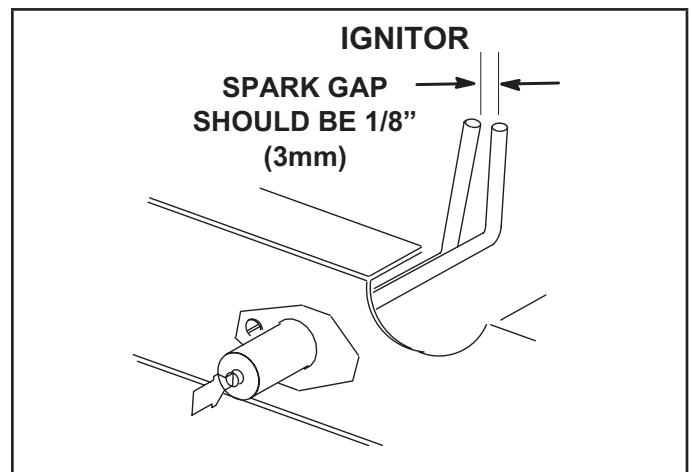

FIGURE 26
- 4 - Locate the ignitor under the left burners. Check ignitor spark gap with appropriately sized twist drills or feeler gauges. See figure 26.